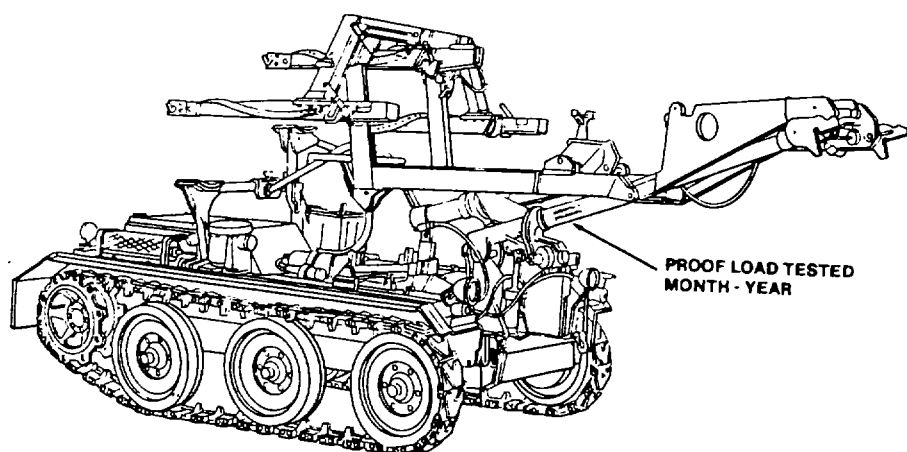
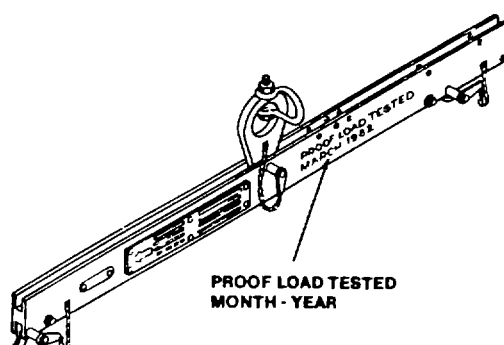

Figure 6-1. Boom Stencil Location.
Figure 6-2. Boom Stencil Location.
(1) Estimated time required to prepare for and to perform all proof-loading and alignment checks is about 24 man-hours. (Four persons for six hours).
(2) Time is based on training missiles being in an uncrated condition with wings removed and the missile located on a pallet.
(3) Time is based on alignment fixture being located on a pallet.
(4) The required number of qualified personnel to be used is four.
(5) In addition, one qualified wrecker operator is required.
c. Recording of Proofload Testing Dates. Proofload testing dates must be stencilled on loader components as shown in figures 6-1 and 6-2.
After a hoisting beam and vehicle are proof-load tested, they will be stenciled. The vehicle will be stenciled on the right side of the index boom (as seen when sitting in the vehicle) (Figure 6-1). The hoisting beam will be stenciled on the same flat edge as the nomenclature plate (Figure 6-2). Both stencils will read "PROOF-LOAD TESTED - month and year". The stencils (1/2 inch) will be made from Marking Stencil Set, NSN 7520-00-205-1760, or equivalent.